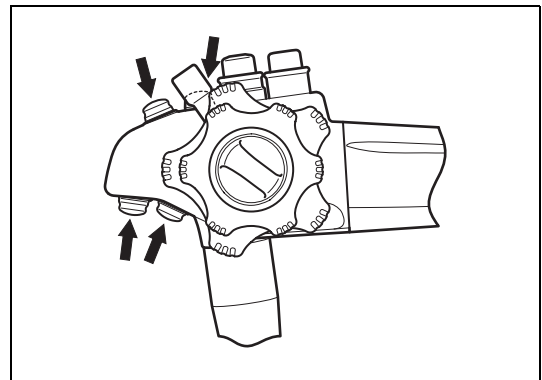

Figure 4.2
- 1 Press each button on the control body of the endoscope and check that a confirmation tone sounds. (Refer to Figure 4.2.)